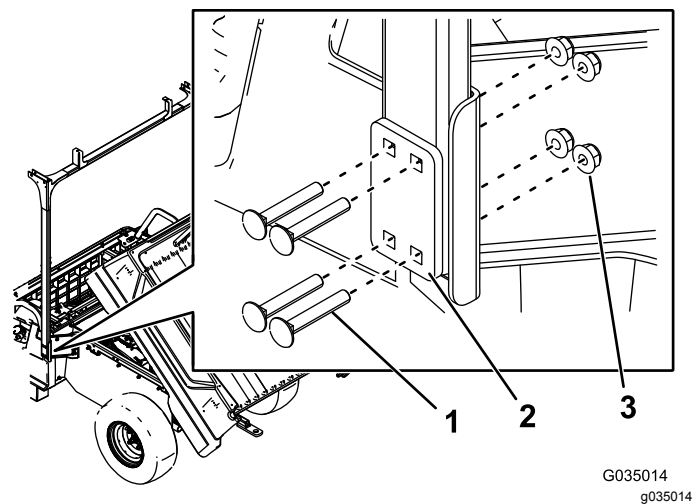

Figure 7
- Loosely install the rear tubes to the rear loop brackets using 8 carriage bolts (5/16 x 2 inches), 2 mounting plates, and 8 nuts (5/16 inch) as shown in Figure 7.